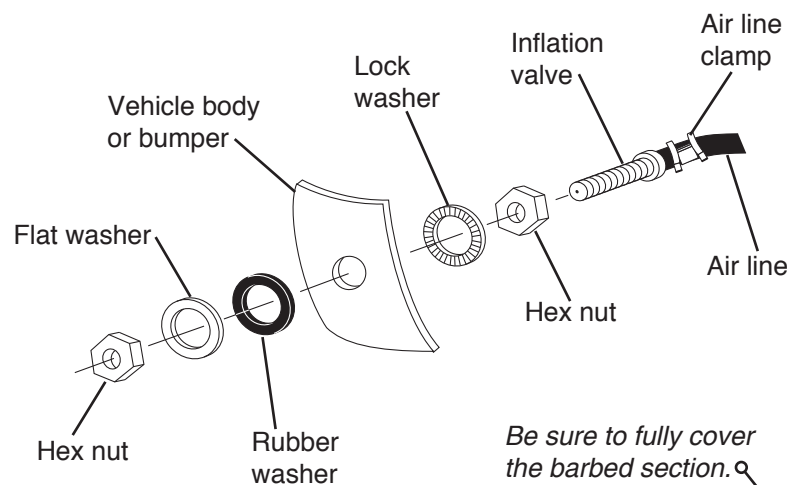

fig. 9
9. Drill a 5/16" hole for the inflation valve and mount as shown (fig. 9). The rubber washer serves as an outside weather seal.
7. Drill 5/16 " hole for inflating valves and mount as illustrated. Rubber washer is for outside weather seal (see fig. 9).